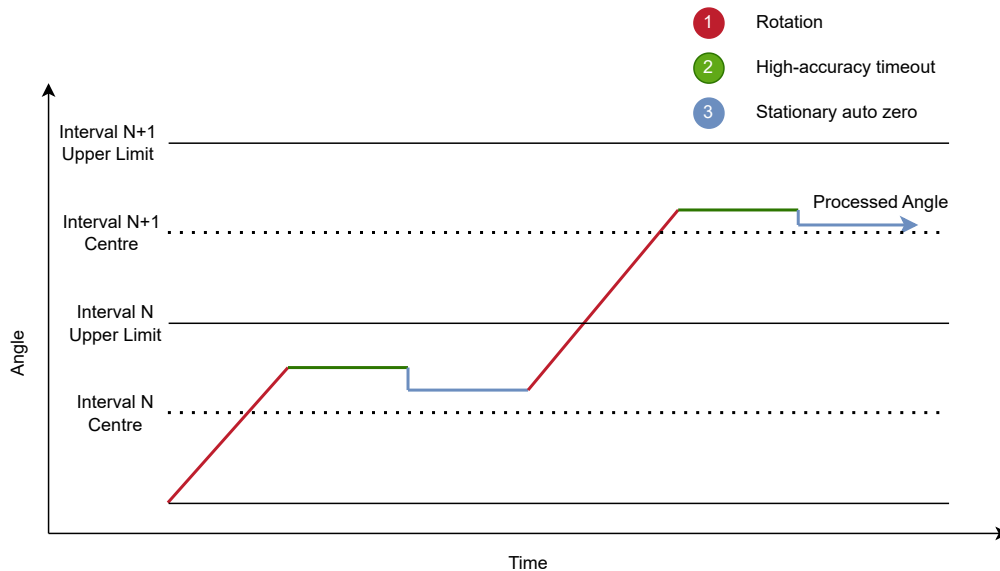

Figure 6.4: Stationary Auto-zero Behaviour
- > **Stationary**: An auto-zero event will occur when the High-Accuracy timeout event occurs. A single adjustment is made to the absolute angle offset each time the device exits High-Accuracy mode. The *Auto-Zero Beta* parameter defines the size of the adjustment, with an auto-zero beta value of 0 resulting in a jump to the exact center of the interval. This behaviour can be seen in Figure 6.4.